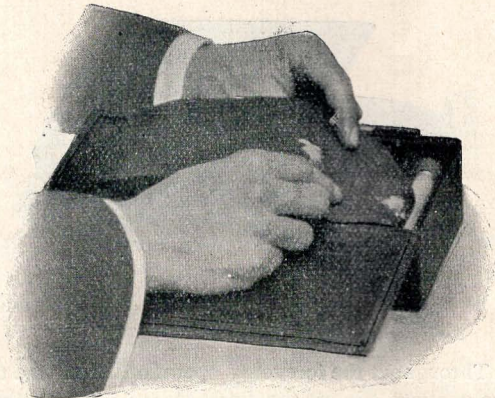

FIG. 4.
5. Cut the gummed slip that holds the end of the black paper; pass the paper over the two rollers and into the slit in the reel, as shown in Fig. 4.